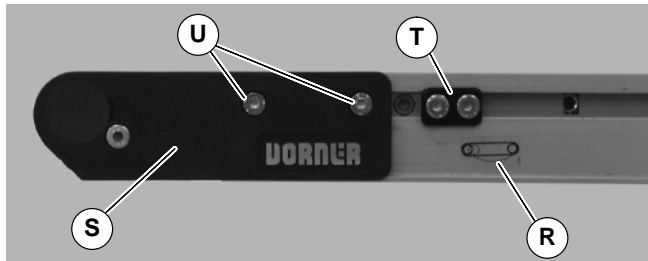

Figure 21
- On tension end of the conveyor, identified with a  label (R of Figure 21), push in head plate assembly (S): On both sides of conveyor, loosen and move cam tracking assemblies (T) (if equipped) away from head plates, then loosen fastening screws (U) and push head plate assembly inward.